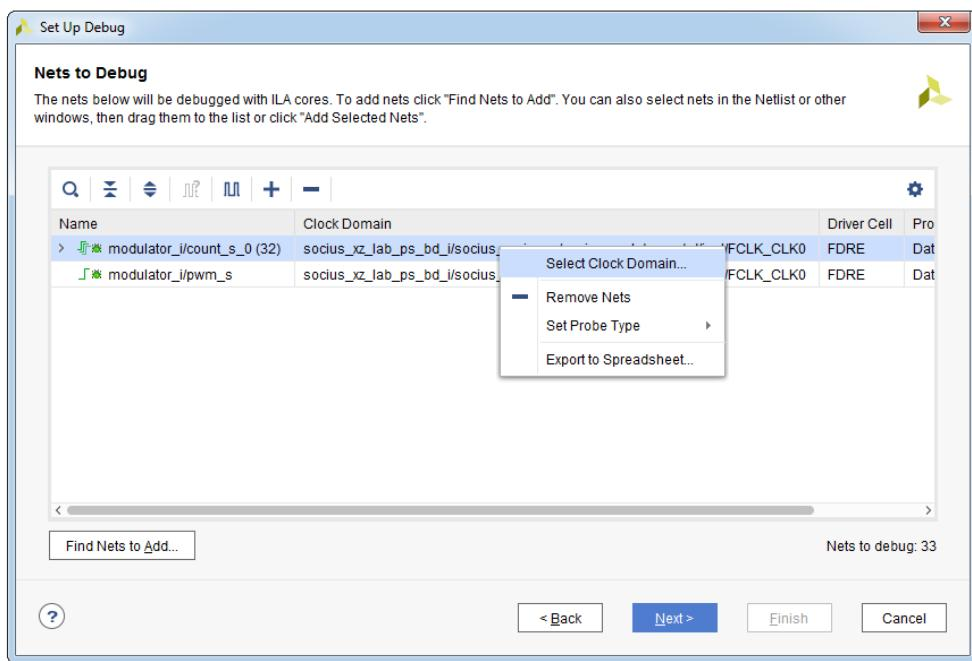

Figure 11.25: Select Clock Domain option
24. In the **Nets to Debug** dialog box, select target debug net, right-click on it and choose **Select Clock Domain...** option to change the clock domain that will be used to sample value on the net, see Figure 11.25.